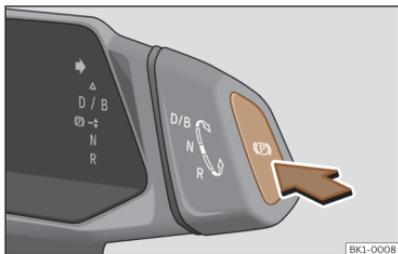

Fig. 141 On the gear selector: electronic parking brake button.
- While the vehicle is stationary, press the button  >>> **Fig. 141**.
- Press the button  >>> **Fig. 141**. The electronic parking brake is activated.